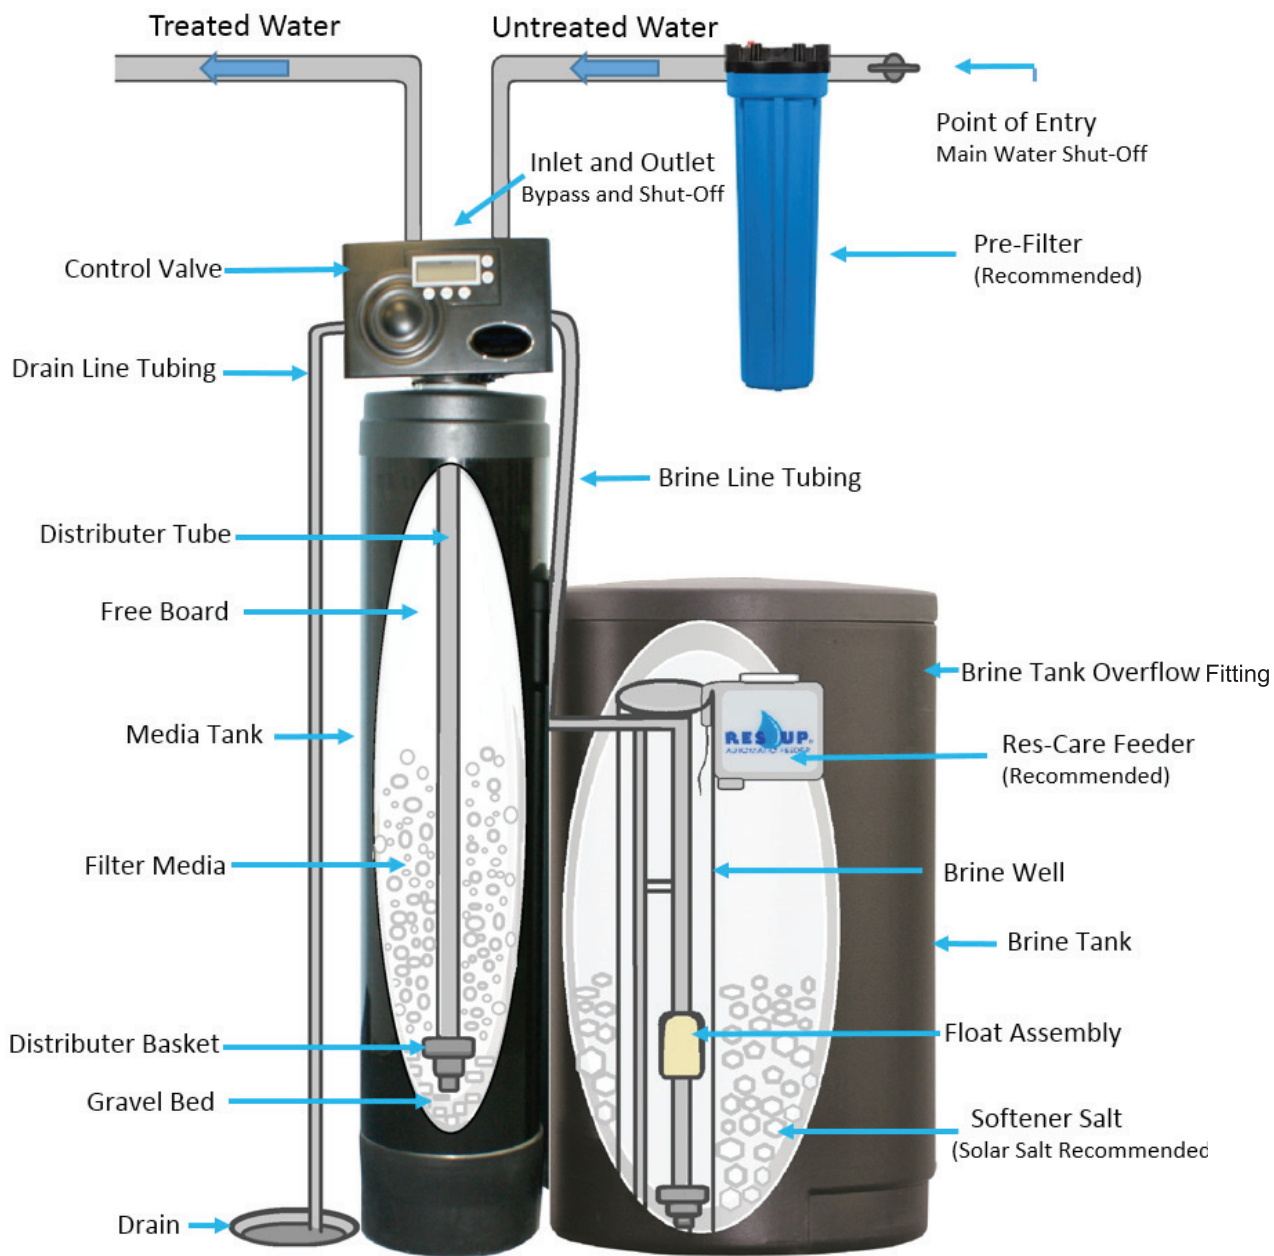

Figure 1
- See the general installation diagram (Fig 1). If a pressure tank is present, install Deluxe Softener System after.
2. Connect the over-flow fitting (Fig 1) on the side of the brine tank to a floor drain.